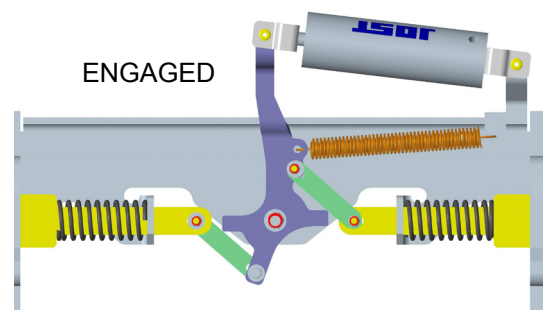

FIGURE 10
1. **Engage the locking plungers as shown in figure 10.**